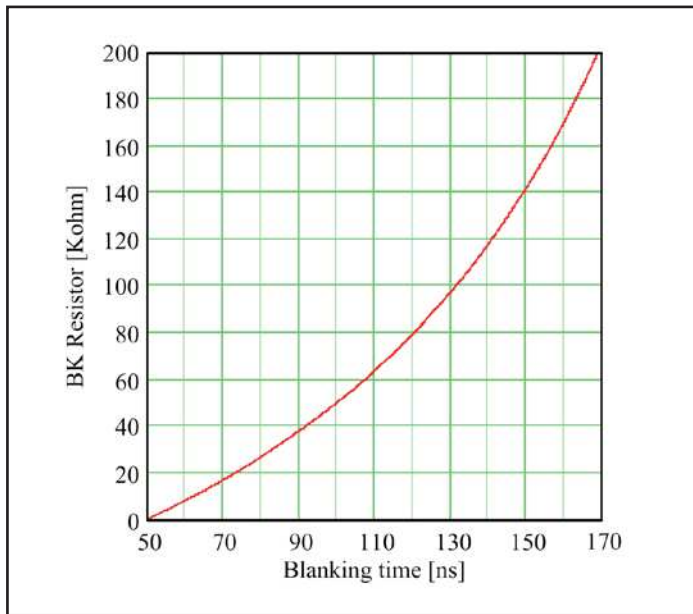

Figure 5 –BK Resistor selection versus Blanking Time
3.1 The blanking timer provides noise filtering for typical switching power conversion that might cause premature reverse current detection by masking the reverse fault condition. The shortest blanking time is 50 ns when the BK pin is connected to ground. Connecting an external resistor ( $R_{BK}$ , reference designators R7 for U1 and R14 for U2) between the BK pin and ground will increase the blanking time as shown in Figure 5.